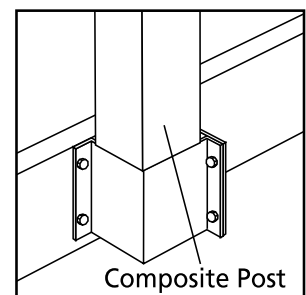

Figure 13
7. Insert post into bracket until bottom of post contacts stop tab on bottom of bracket (Fig. 13).